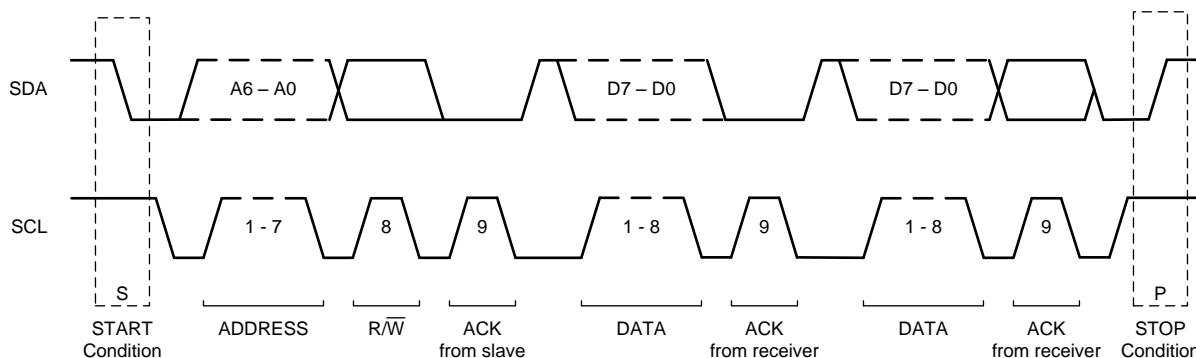

Figure 34. I²C Data Transfer Format
Figure 34 shows the format of the data transfer. The master initiates all transactions with the ADS1119 by generating a START (S) condition. A high-to-low transition on the SDA line while SCL is high defines a START condition. The bus is considered to be busy after the START condition.